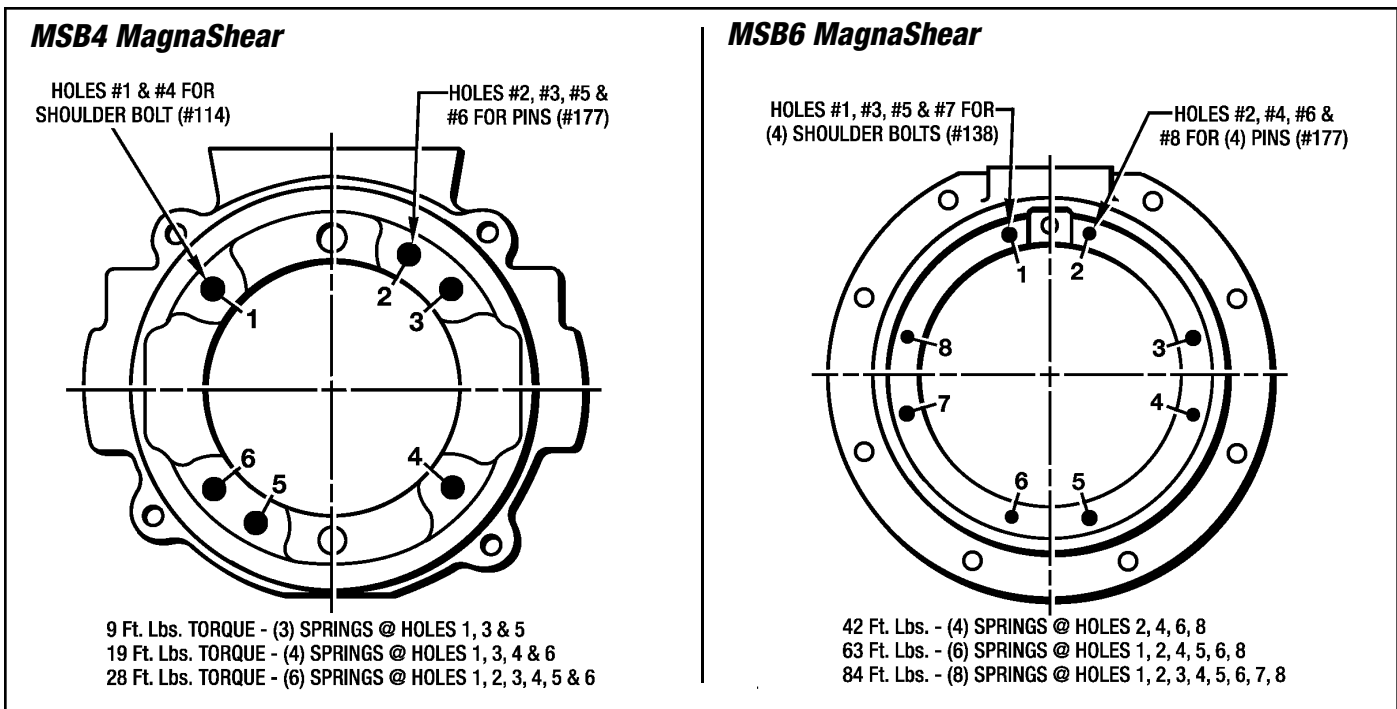

Figure 7.7 - Spring Placement for MSB4 and MSB6
- Set the End Housing (#9) so the Coil (#284) is facing upright. Place the correct number of Springs (#36) into the End Housing. (See Figure 7.7)
- Set the Armature Plate (#56) and Armature Ring (#58) in position on the Springs (#36). Make sure the (4) holes in the Armature Plate (#56) for the (4) Shoulder Bolts (#138) are aligned with the (4) tapped holes in the End Housing (#9) as shown in Figure 7.7.
- Install the (4) Shoulder Bolts (#138). Use **Primer T and Blue Loctite #242** on the threads.
- Attach the End Housing (#9) to the Input Housing (#15) with (8) Screws (#72) and (8) Lockwashers (#127). **Torque the (8) Screws (#72) to 25 Ft. Lbs.**
- Set the Armature Plate (#56) and Armature Ring (#58) in position on the Springs (#36). Make sure the (2) holes in the Armature Plate (#56) for the (2) Shoulder Bolts (#114) are aligned with the (2) tapped holes in the End Housing (#9) as shown in Figure 7.7.
- Install the (2) Shoulder Bolts (#114). Use **Primer T and Blue Loctite #242** on the threads.
- Attach the End Housing (#9) to the Input Housing (#15) with (4) Screws (#72) and (4) Lockwashers (#127). **Torque the (4) Screws (#72) to 14 Ft. Lbs.**